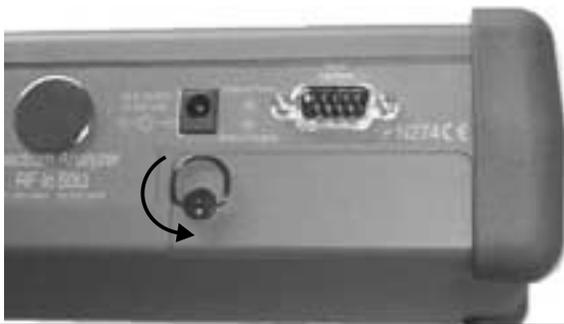

Figure 6. Rotate the Battery Access Door Handle
2. Lift up the access door handle and rotate it 90 degrees counterclockwise, as illustrated in Figure 6.